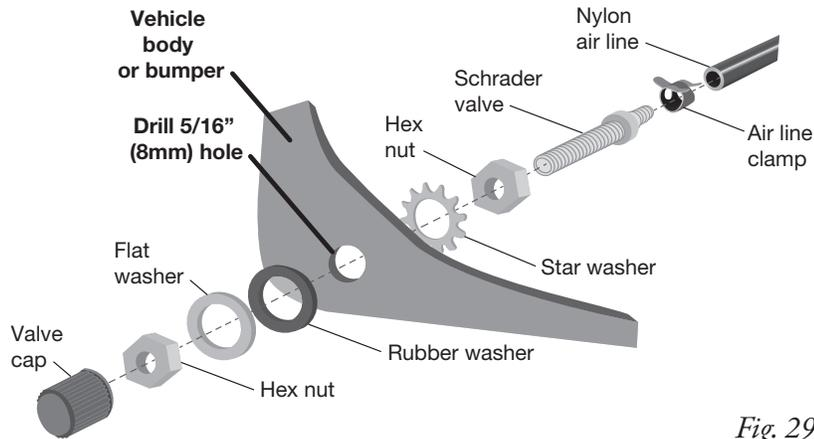

Fig. 29
- Drill a 5/16" (8mm) hole for the Schrader valve and mount as shown (Fig. 29). Install the air line on the Schrader valve first. The rubber washer (L) serves as an outside weather seal.